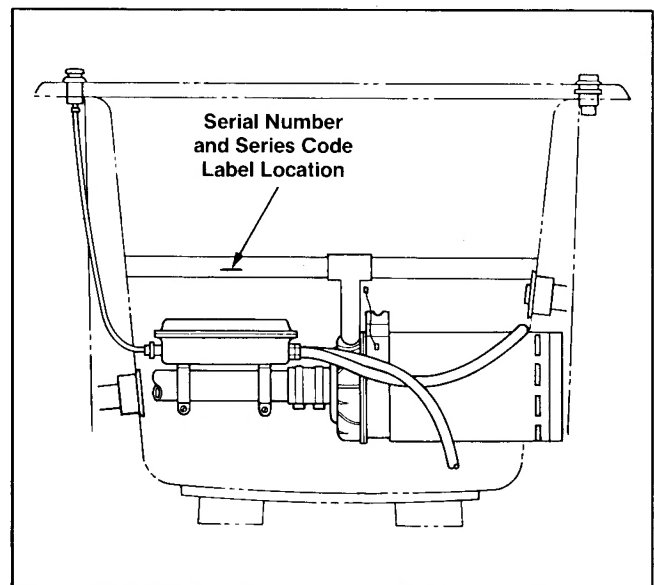

Figure 1-1. Serial Number and Series Code Location
The serial number is an 8-character code assigned to each Whirlpool Bath to provide a uniform method of permanently identifying each unit. The series code is a two (2) character alpha code identifying a specific feature of the Whirlpool model and is located on the same label as the serial number. Both codes are located on a label attached to the Whirlpool Bath pipe harness return line directly above the air switch power panel. It is visible after installation with the access panel removed (refer to Figure 1-1).